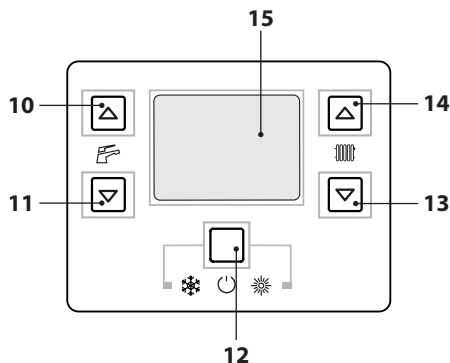

Figure 3.3
If the ambient temperature is too high, do not adjust the radiator cocks but decrease the heating temperature regulation using the ambient thermostat or the heating regulation keys 13 and 14 (Figure 3.3).
To restore operation, press the reset key 12 (Figure 3.3) on the boiler control panel.